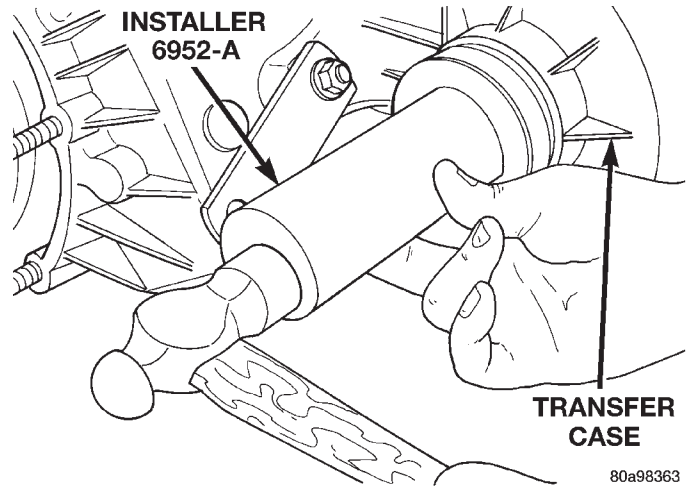

Fig. 50 Install Front Output Shaft Seal
- (5) Install new front output shaft oil seal with Installer 6952-A (Fig. 50).